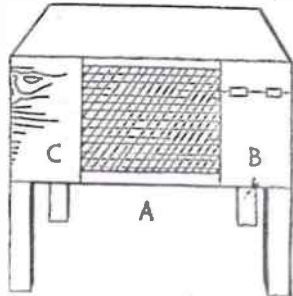

Fig. 1—Hutch suitable for two ferrets
First, do not think that you can make do with any old kind of soap box to house them. You must either make or purchase a suitable hutch. And this should be fairly large, warm, rainproof, light, well-ventilated, and raised off the ground as in Fig. 1. A likely hutch for a couple of ferrets should be about 3ft. long by 18ins. high and 18ins. wide, or round about those measurements. This should be divided into three compartments. At the right-hand of the hutch is the sleeping chamber (B), the middle part (A) is the run, and on the left is another compartment (C) to which the animals will learn to resort to do their 'toilet'.